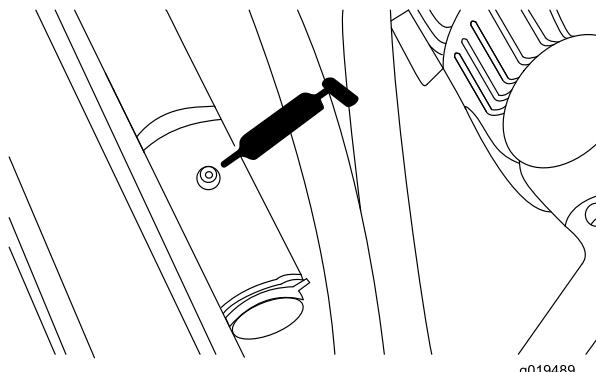

Figure 39
- Rear lift cylinder pivot (2) (Figure 39)